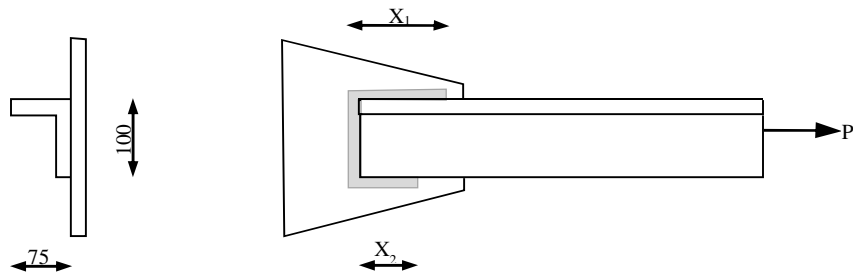

Fig. 1
- b) A single unequal angle section 100 X 75 X 10mm is welded to a gusset plate as shown in figure 1. It transmits a load of 150kN through its centroid. Design the joint using 8mm fillet welds.
A 150 X 20mm steel strap is spliced as shown in figure 1.